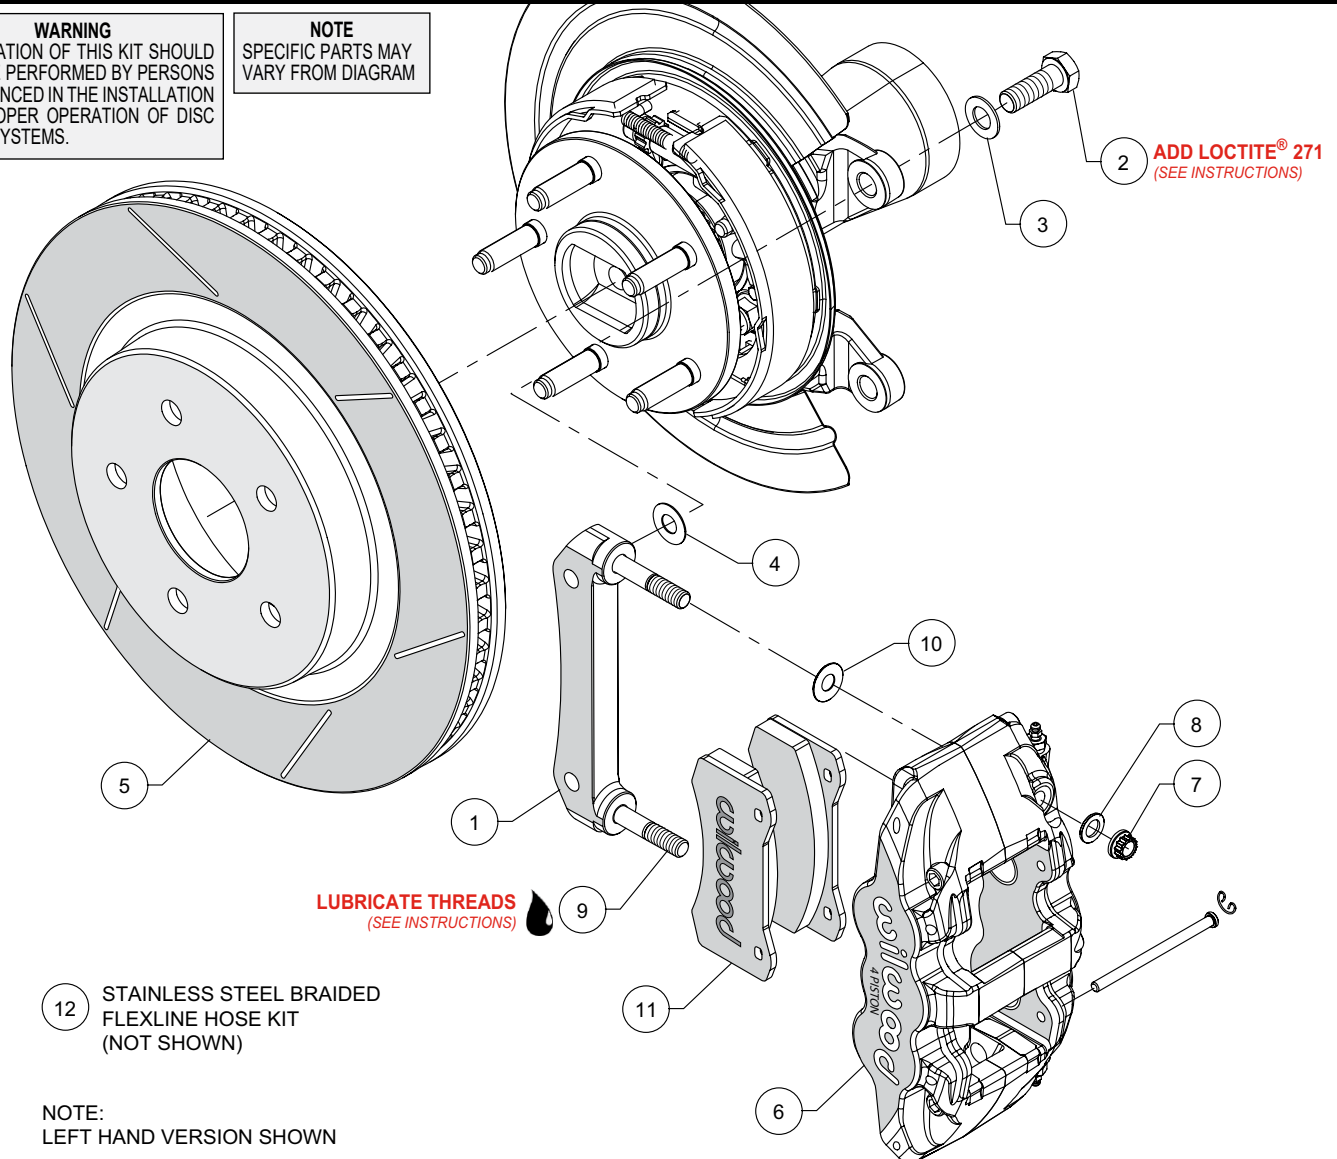

Figure 1. Typical Installation Configuration
NOTE: Numbers in parenthesis refer to the parts list and Figure 1 on the preceding pages.
- The caliper mount bracket (1) should initially be installed with clean, dry threads on the mounting bolts. Orient the bracket as shown in Figure 1 and Photo 1, and install using bolts (2) and washers (3). Initially place one .029 thick shim (4) on each bolt between the bracket and upright, Figure 1. Temporarily tighten the mounting bolts. **NOTE:** The bracket must fit squarely against the mount bosses on the upright. Inspect for interference from casting irregularities, machining ridges, burrs, etc. Later, after the caliper alignment has been checked, the mount bolts will be secured using red Loctite® 271.
- Lubricate the caliper mounting studs (9) with lightweight oil. Initially place one .030" thick shim (10) on each stud as shown in Figure 1 and Photo 3. Mount the caliper (6) onto the bracket (1) using lock nuts (7) and washers (8), Figure 1. Temporarily tighten the lock nuts and view the rotor through the top opening of the caliper. The rotor should be centered in the caliper, Photo 4. If not, adjust by adding or subtracting shims (4) between the bracket (1) and the upright. Always use the same amount of shims on each of the two mounting bolts. Once the caliper alignment is correct, remove the bracket mounting bolts (2) one at a time, apply red Loctite® 271 to the threads, and torque to 77 ft-lb.
- Remove the caliper (6), then remove the two pad retaining pins from the caliper by carefully popping out the pin retaining clips and sliding out the pins. Insert the brake pads (11) into the caliper from the bottom, Figure 1 and Photo 5. With the friction material facing the rotor, secure the brake pads in place with the pad retaining pins and clips, Photo 6. Reinstall the caliper onto the caliper mounting bracket and temporarily tighten the lock nuts. Check that the top of the brake pad is flush with the outside diameter of the rotor, Photo 7. If not, adjust by adding or subtracting shims (10) between the caliper and the bracket. After the caliper pad height is set, torque the caliper lock nuts (7) to 47 ft-lb.